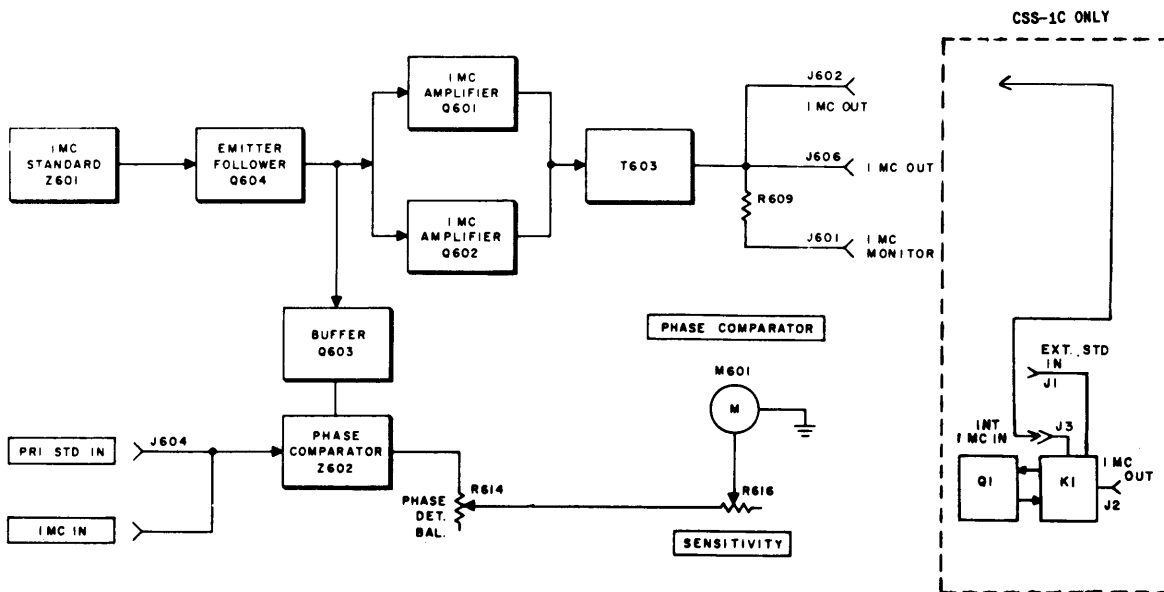

Figure 4-1. Model CSS Block Diagram
4-2. BLOCK DIAGRAM DESCRIPTION. (See figure 4-1).
- a. Block diagram (figure 4-1).